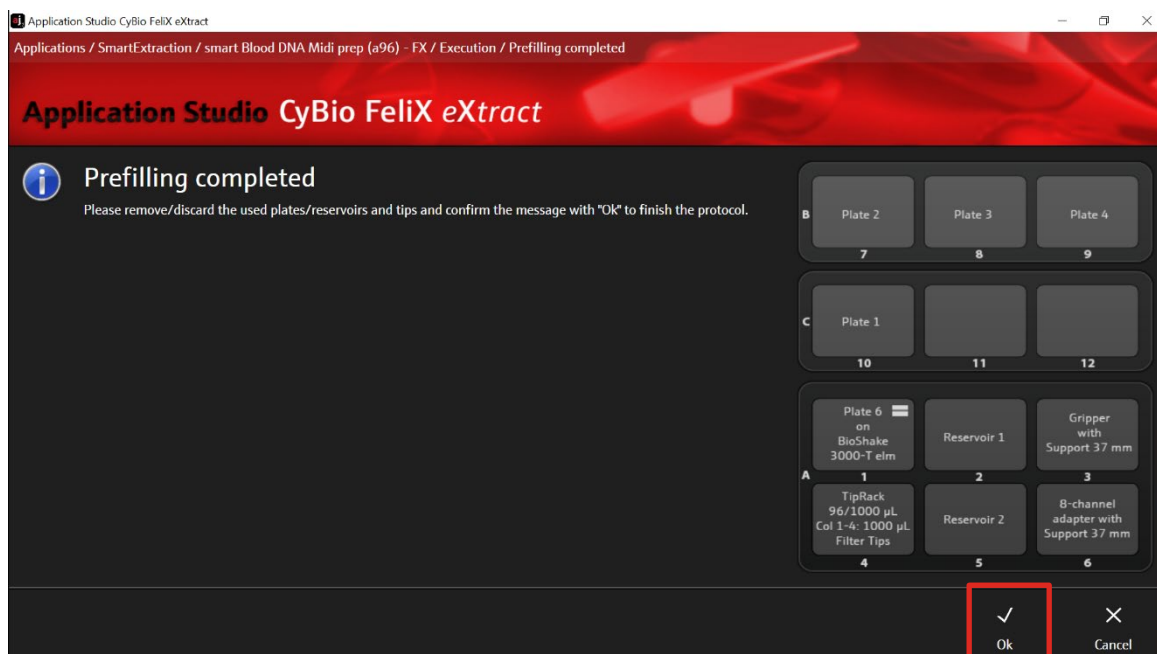

Figure 9: Prefilling process is completed.
18. The chosen protocol is performed by the device. After the protocol is finished, the message "Prefilling completed" is shown. Confirm the message with "Ok" (→ see Figure 9).